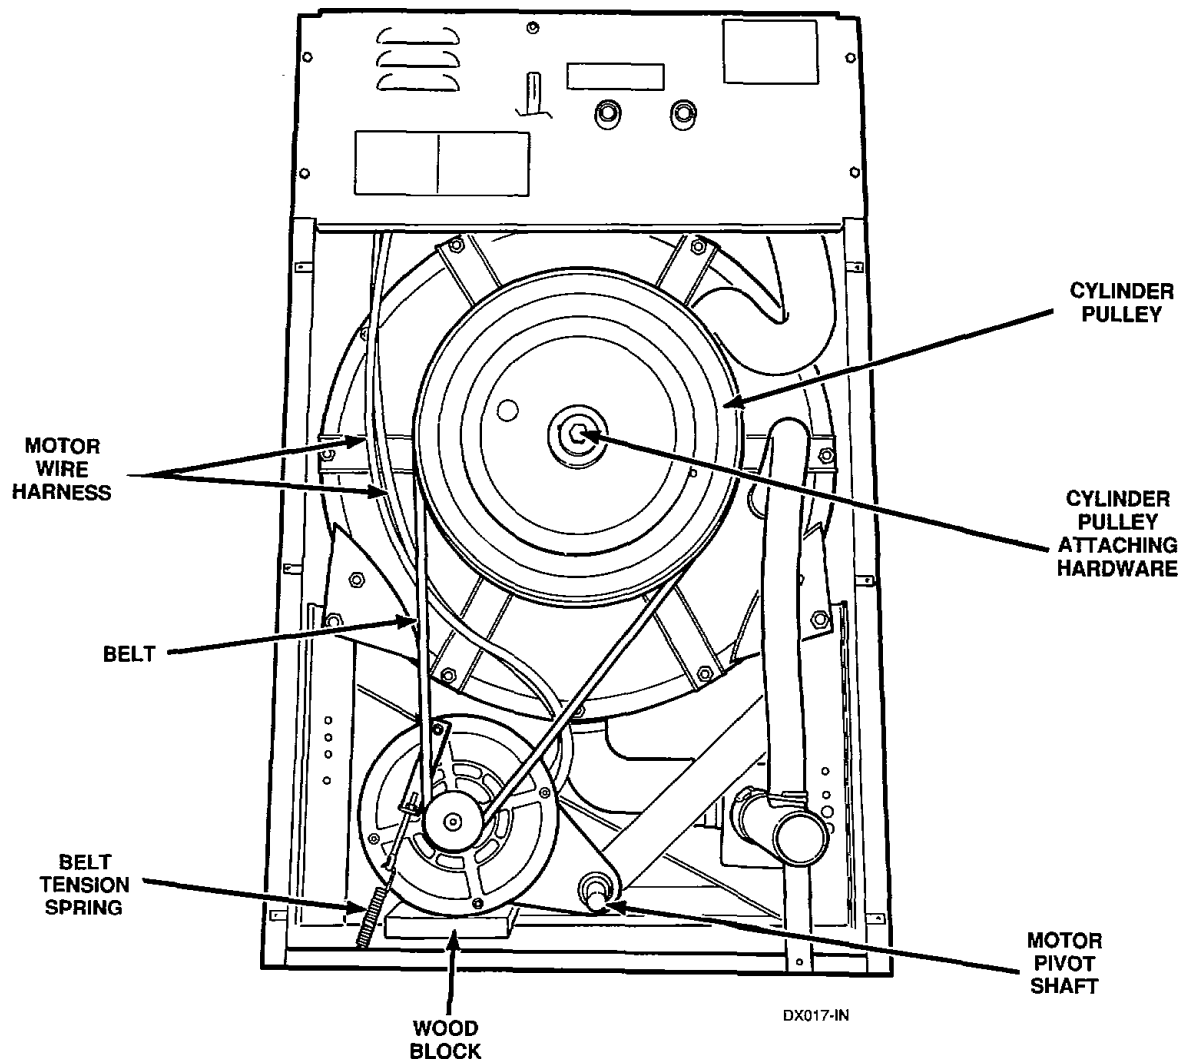

Figure 11
- Run belt off cylinder pulley while slowly turning pulley, *Figure 11*.
- j. Run belt off cylinder pulley while slowly turning pulley, *Figure 11*.
- k. Unhook the belt tension spring from the motor, *Figure 11*.